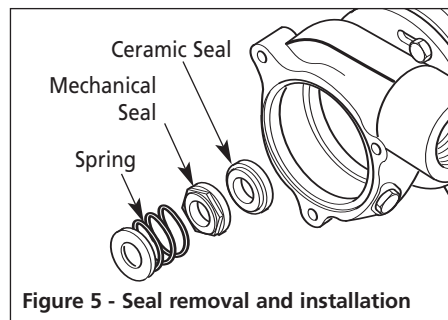

Figure 5 - Seal removal and installation
(Procedures for Stainless Steel Models - See Figures 5, 6, 7 and 9)
1. Press the new ceramic seal into the housing with the ceramic portion of the ceramic seal facing away from the motor (See Figure 5).
5. Place the spacer tool (can be created using a piece of light cardboard about 0.020" thick) over the impeller as shown (See Figure 5).